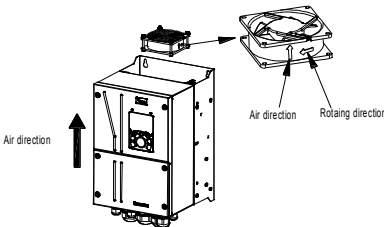

Fig 8.1 Fan maintenance for VFDs of 7R5G/011P or higher
5. Install a new fan in the VFD in the reverse steps. Assemble the VFD. Ensure that the air direction of the fan is consistent with that of the VFD, as shown in the Fig 8.1.